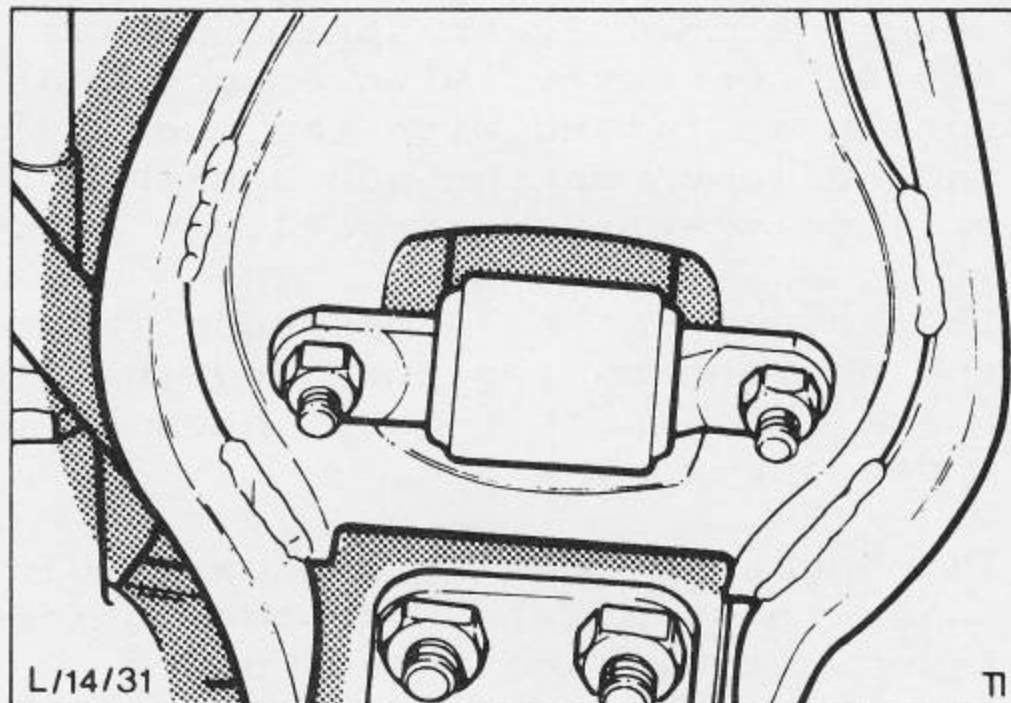

Fig.36 Shock absorber lower mount.
18. Remove spring compressor and refit shock absorber tightening upper mount nut and locknut. Fit and tighten lower mounting nuts to 12 - 15 Ft. Lbs. Fig.36